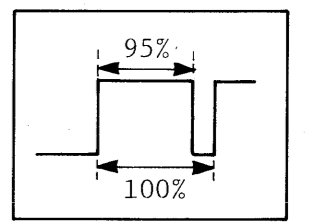

Fig. 37
- (1) Connect oscilloscope to TP4 pin 1 (CH1).
- (2) Press C4 key and adjust PWM 95% VR7 (PANEL BOARD A) so that duty ratio is 95%. (Fig. 37)